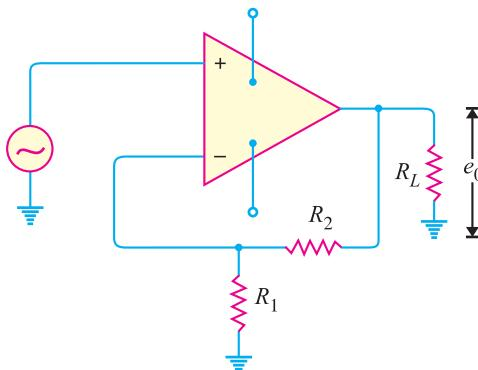

Fig. 13.30
6. Fig. 13.30 shows the negative feedback amplifier. If the gain of the amplifier without feedback is 10^5 and $R_1 = 100\text{ }\Omega$, $R_2 = 100\text{ k}\Omega$, find (i) feedback fraction (ii) gain with feedback.